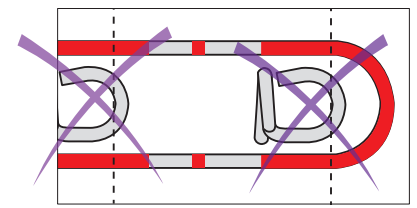

Fig.8
- Remove the shim ⑨ (fig. 8) and ensure that the cam ⑦ remains centered relative to the actuator ⑧ using the markers ⑩ (fig. 4A)
- Arm the device by pressing the lock ⑬, you will hear a "click" sound (fig. 8).